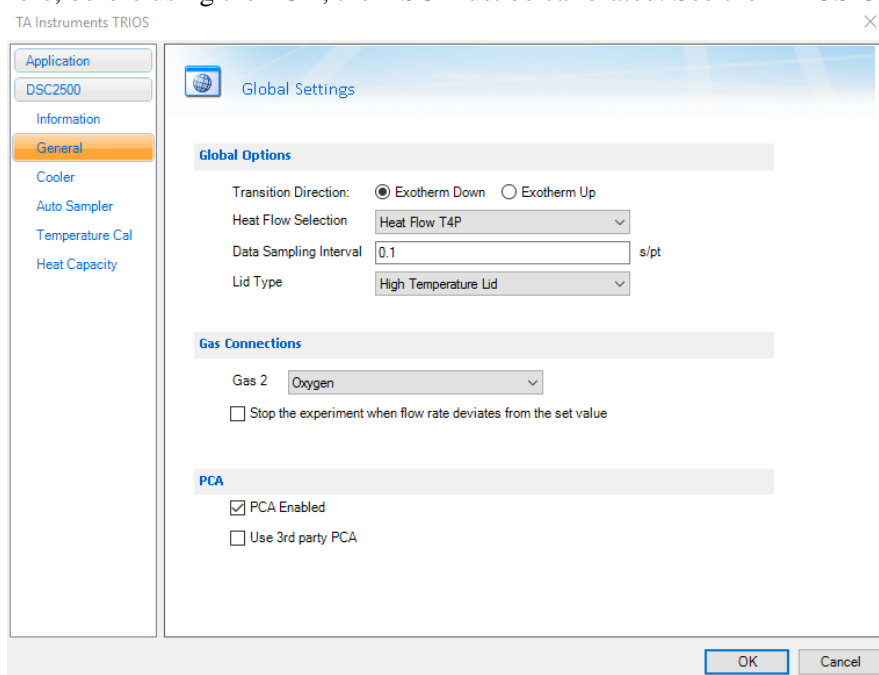

Figure 10 General page in TRIOS Options.
- 9 Press the MODE/UP/DOWN adjust buttons on the PCA unit until the mode is set to Level. From the TRIOS DSC instrument control program, go to **TRIOS Options > General** and make sure **PCA Enabled** is checked (see Figure 10). If using a third-party PCA, also select **Use 3rd Party PCA**. Click **OK**.
- Disable the PCA by deselecting the check box in **TRIOS Options > DSC25x > General** (see Figure 10).